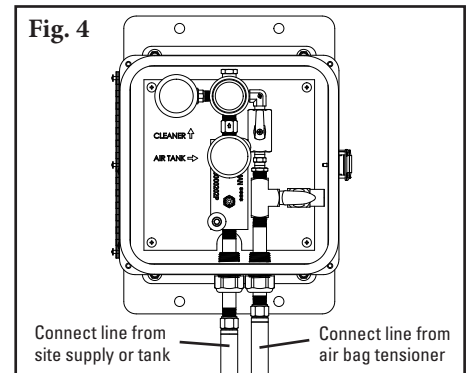

Fig. 4
- 4. Ensure the tensioner travels freely.** Pull up and push down on each pole end to ensure the pole mount travels freely on the guide pole. If there is any sign of binding, loosen the bolts on the mounting base and pivot until the tensioner moves freely (Fig. 4). Retighten bolts.
4. **Connect the supply lines and set tension pressure.** With the parts supplied, attach a line to each air bag and run the lines to the outlet side of the control box (Fig. 4).